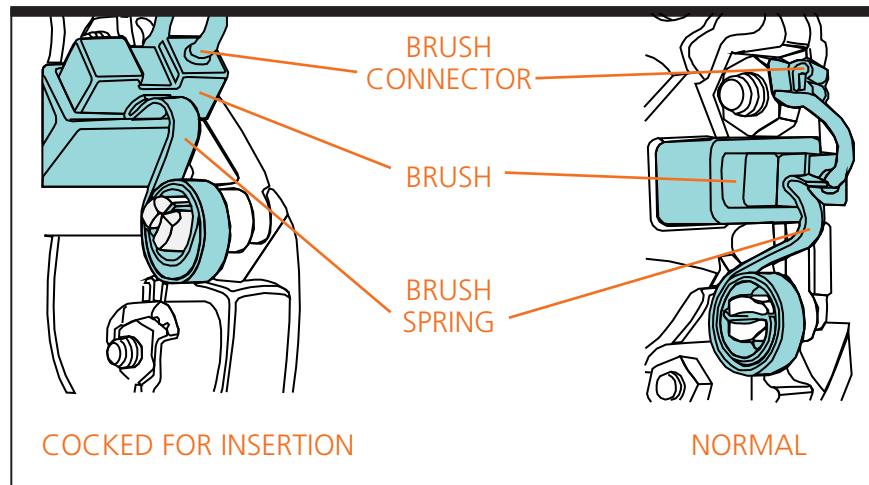

Figure 4-1. DC Motor Brushes with Gasketed Cover Removed
**Step 3—Replace Brushes.** Lift the brush spring from the end of the brush (see Figure 4-1). Remove the brush connector, withdraw the brush and inspect the length. To prevent motor damage, brushes should be replaced when or before they reach a length of 0.575" (15 mm). New brush length is 1.03" (26 mm). Reverse procedure to replace brush. Replace motor access and feeder covers.